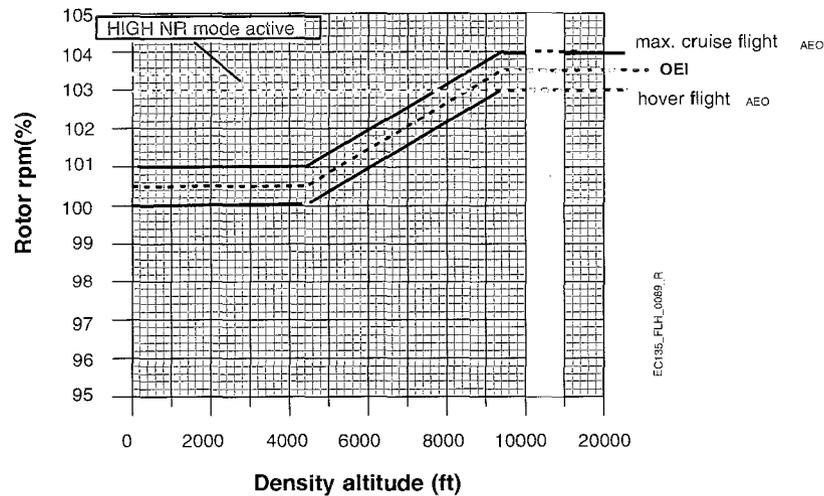

Fig. 7-14 Rotor RPM vs Density Altitude
- In normal "Power On" operation the rotor speed is governed automatically as a function of density altitude (Fig. 7-14 shows the rotor RPM vs DA under AEO conditions including HIGH NR mode and OEI/ OEI Training).